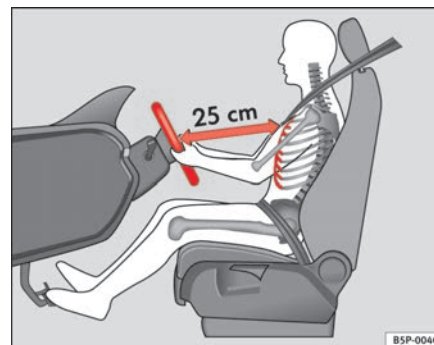

Fig. 135 Proper sitting position for driver
- Adjust the steering wheel in this way until the correct position is set ⇒ fig. 135.
- Adjust the driver seat or steering wheel so that there is a distance of at least 25 cm between the steering wheel and your breast bone ⇒ page 161, fig. 135. If you fail to observe the minimum distance, the airbag will not protect you. Risk of fatal injury.